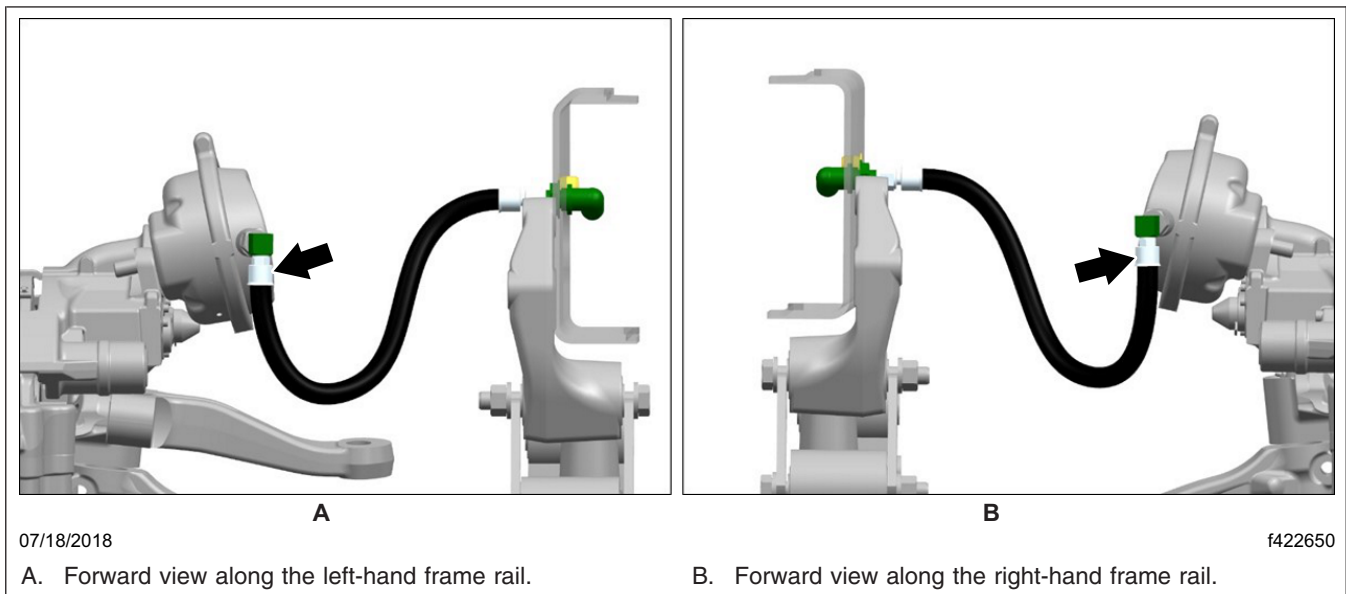

Fig. 2, 90 Degree Fitting, Facing Straight Down
8. Rotate the fitting so that it faces straight down as shown in **Fig. 2**.
10. Install the brake hose on the 90 degree fitting as shown in **Fig. 2**.